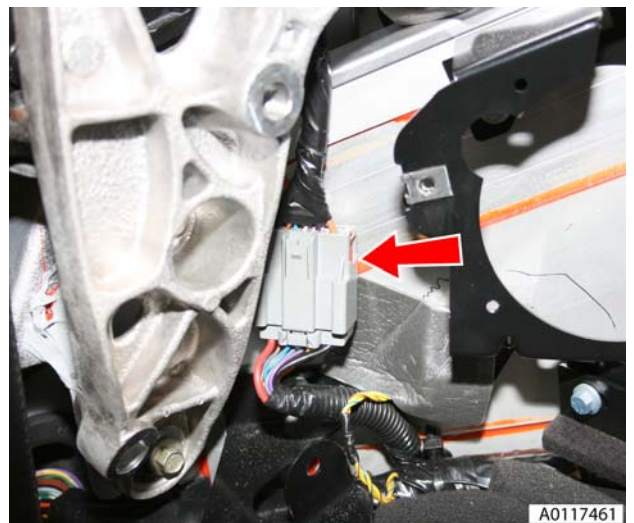

Figure 6
12. Release multiplug from body and disconnect and feed through into tonneau area (RH) (see Figure 6).